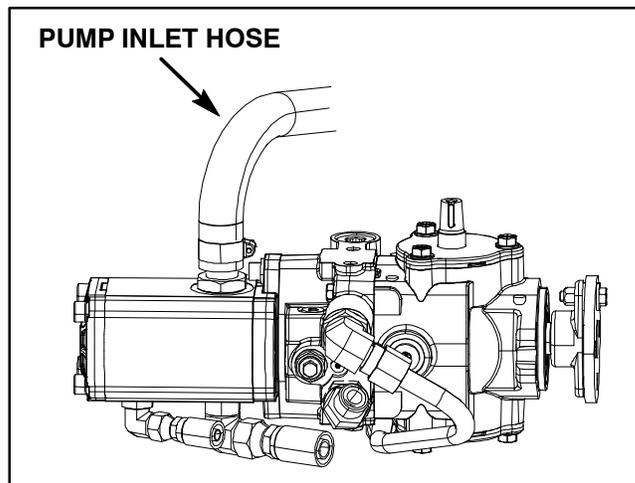

Figure 80
4. Apply antiseize lubricant to threads of three (3) cap screws (item 29). Secure hydraulic reservoir to the machine frame with three (3) cap screws, flat washers (item 30) and bushings (item 41). Torque cap screws from **30 to 60 in-lb (3.4 to 6.7 N-m)**.
6. Secure pump inlet hose to gear pump with hose clamp (Fig. 80).
7. Connect wire harness connector to oil level sensor (item 20).